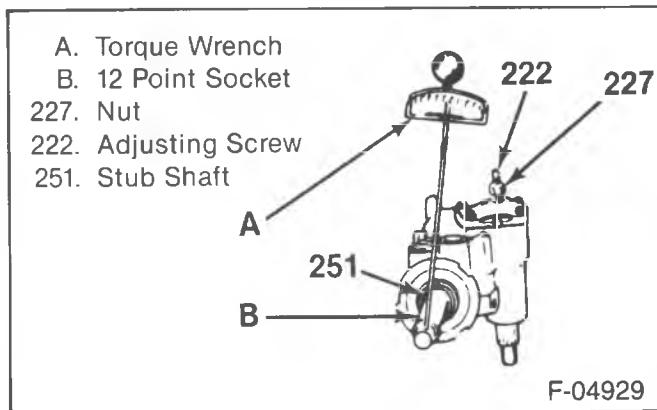

Figure 21—Aligning the Over-Center Preload
Adjust (Figure 21)
- Pitman shaft preload (figure 21).
2. Center the steering gear by turning the stub shaft (251) from right to left and counting the number of turns. Turn the shaft back halfway to the center position.